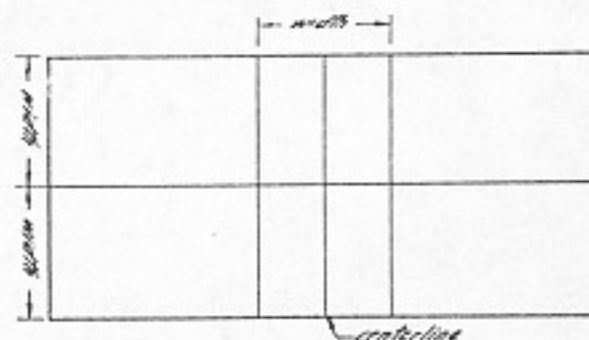

Fig. 207. Layout of cross-lap joint; first step.
2. Next in importance is that the joint is made exactly in the center of the pieces. First, the pieces are placed side by side so that their ends are flush, half their length is measured, and a line is squared across both pieces at this point (Fig. 207). This measurement is tested by reversing one of the pieces. When the ends are flush and the center lines meet, the measurement is correct. If the center lines do not meet, the length of the pieces has not been divided exactly in half.